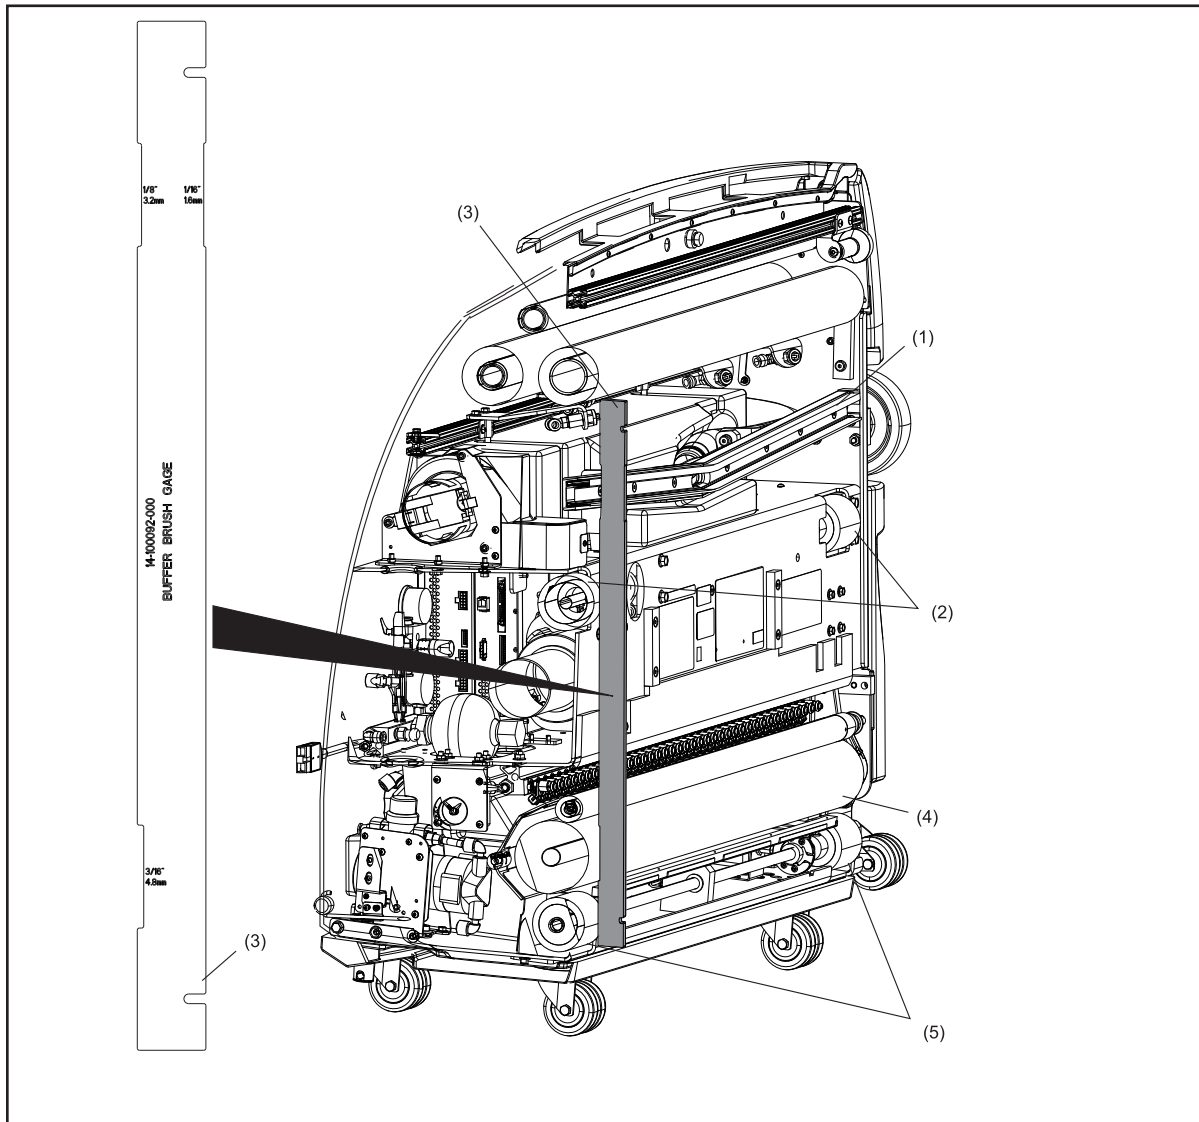

Figure 6-19. Adjustment Tool - Section View
(1) THREE MOUNTING BOLTS
- Place adjustment tool (mounted inside the lane machine in front of the electronics enclosure) across the rear wheel and drive wheel on the 7-pin side of the machine. Refer to *Figure 6-19*.